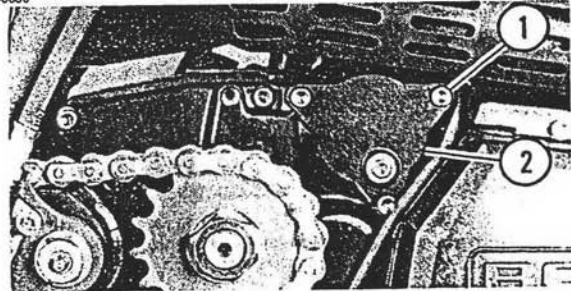

Figure 3-3. Oil Filter Cover Mounting Screws
5. See Figure 3-3. Using a 5 mm hex key, remove socket head screws (1) and oil filter cover (2).
4. See Figure 3-3. Using a 5 mm hex key, install filter cover (2) and secure with socket head screws (1).